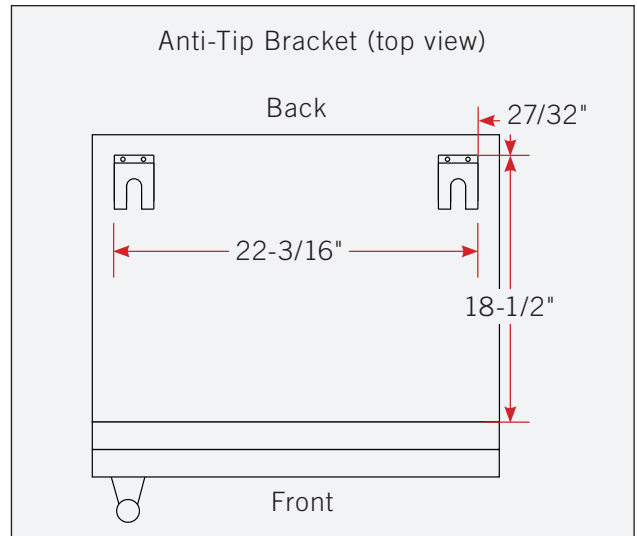

FIG. 1. Top plan view of anti-tip bracket positioning.
2. Determine the final installation location of the unit. Measure 27/32" (22 mm) inset from the sides and either 27/32" from the back or 18-1/2" (470 mm) from the front (measure does not include the kickplate). See fig. 1.